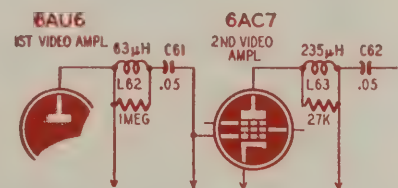

Fig. 2—Coupling circuits of the video amplifier as used in the Motorola TS-5
**Picture smear.** Low bias on 6AU6 first video amplifier or 6AC7 second video amplifier. Leaky .05- $\mu$ f video amplifier coupling capacitors C61 or C62. (See Fig. 2.)
**Poor resolution (picture stable).** R.f. tuner or video i.f. badly out of alignment. Open peaking coils in 6AL5 video detector plate (L59 or L60), or in first or second video amplifier plates (L62 or L63). (See Fig. 2.)